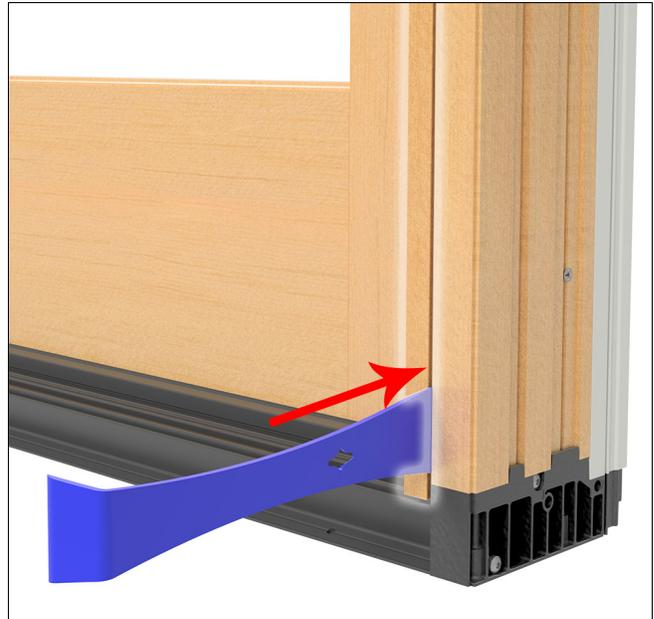
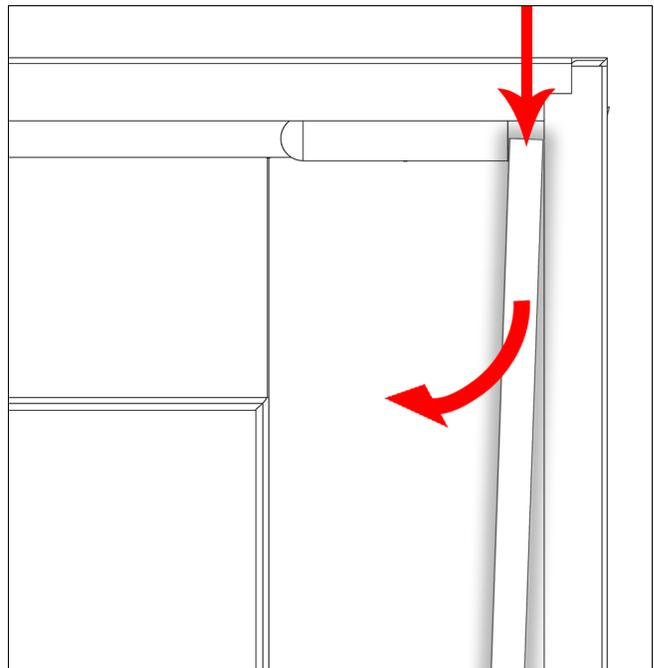

Figure 16 Remove interior side jamb parting stop.
Figure 17
9. Remove interior wood stationary side parting stops with a pry bar. Start at the bottom and work your way to the top. Slide the top out from behind the panel bumper. Take care to not rip the weatherstrip. See Figure 16 and Figure 17.